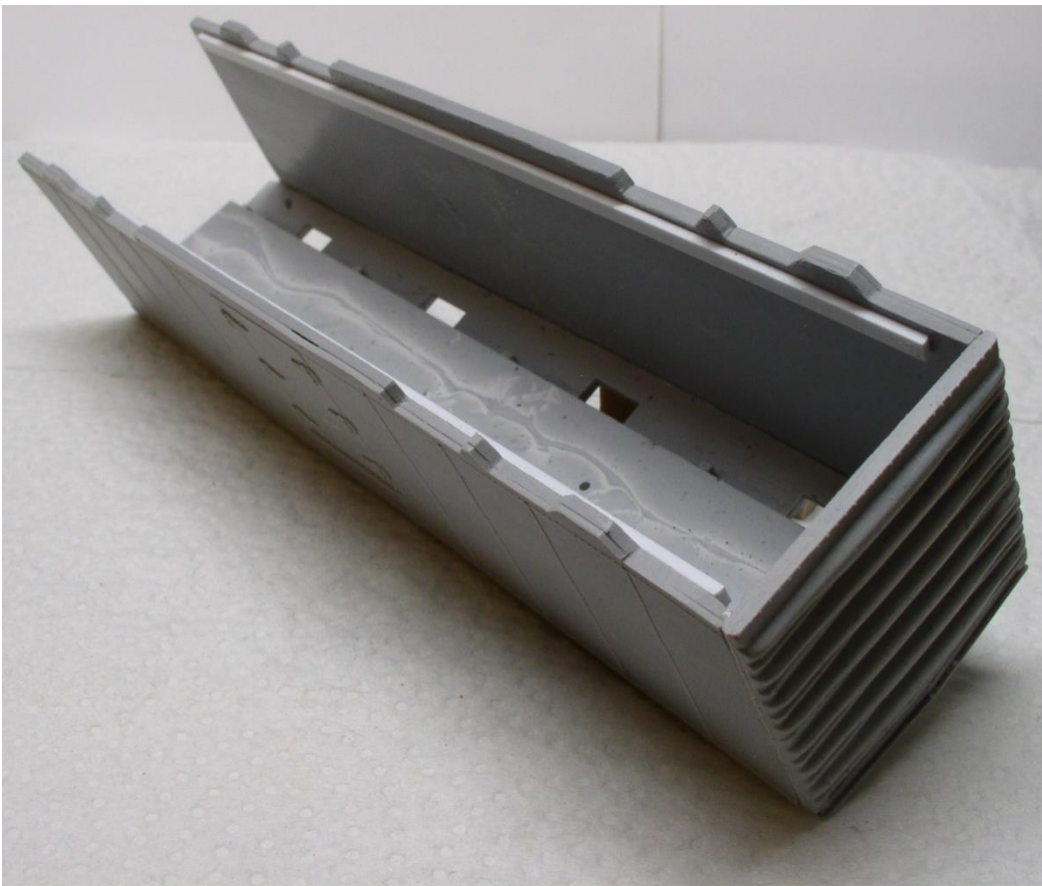

Figure BD2
3. Take the other side. Line it up with the roof and end and tack glue in place. See Figure BD2.